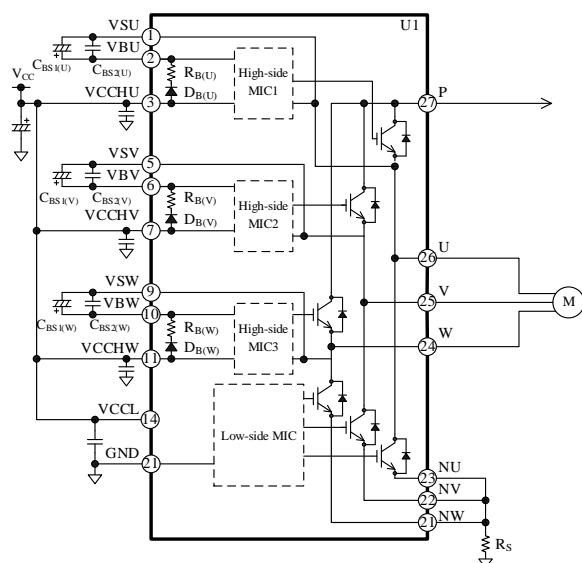

Figure 13-1. Bootstrap Circuit
As Figure 13-1 shows, bootstrap diodes, D_{B(x)}, and current-limiting resistors, R_{B(x)}, are internally placed in series between the VCCHx and VBx pins. Time constant for the charging time of C_{BS1(x)}, τ , can be computed by Equation (3):